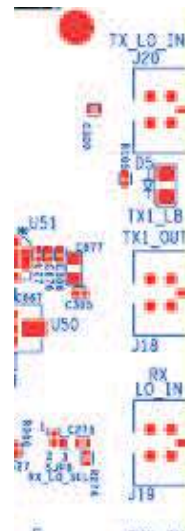

Figure 2. Location of Local Oscillator Inputs
- Local oscillator (LO) inputs are located at SMA connectors J20 and J19 (see Figure 2). The board default configuration is to operate with a single LO source provided from TX_LO_IN connector (J20). Connect the external LO source to J20 and set the desired frequency. If using the high frequency configuration (default) use a power level such that the power at the input connector J20 is at approximately +2 dBm. If using the low frequency configuration, depending on the frequency selected, the LO power should be set approximately to -7 dBm to prevent signal saturation. If using an external filter (recommended) with the external LO source, any cable and filter loss must be taken into consideration.